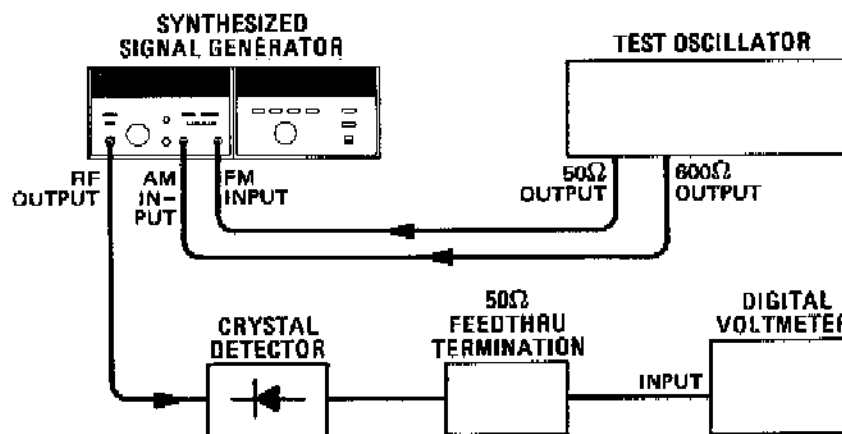

Figure 4-16. Incidental AM Test Setup
1. Connect the equipment as shown in Figure 4-16.